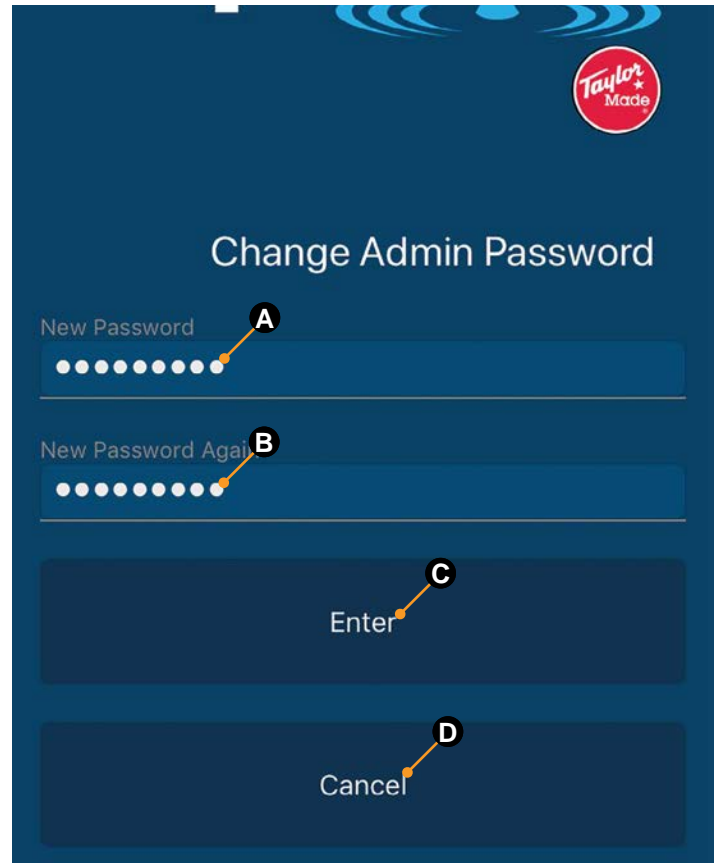

Fig.20
11. Tap the right bracket (➤) to display the Change Admin Password screen (Fig.20).